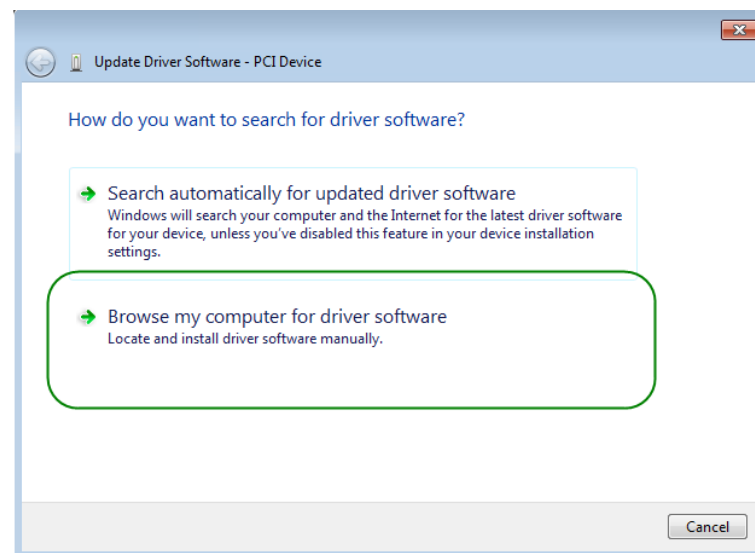

Figure 3-5 Dialog of Browse my computer for driver software
8. In the **How do you want to search for driver software** dialog, click **Browse my computer for driver software** item, as shown in **Figure 3-5**.